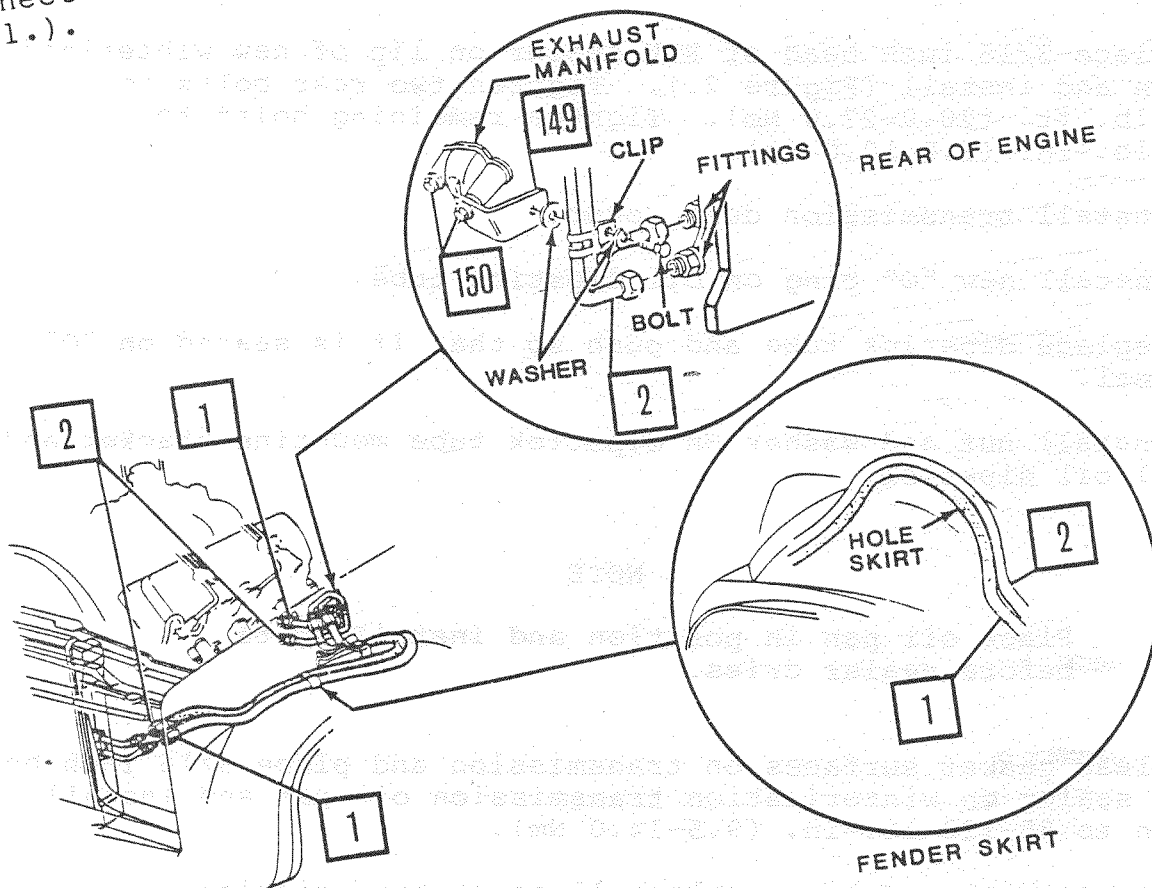

Figure 1.
14. Remove fittings on both engine coolant lines at left rear of engine (Figure 1.).
16. Remove oil coolant lines at left side of radiator (Figure 1.).
17. Remove oil coolant lines from clip on left fender skirt (Figure 1.).
31. Remove existing bracket and two manifold screws at rear of manifold (Figure 1.).
32. Install two new manifold bolts and new bracket. Tighten to 19-26 lb.-ft. (25.0-35.0 Nm) (Figure 1.).
34. Connect new oil coolant lines to radiator and tighten (Figure 1.).